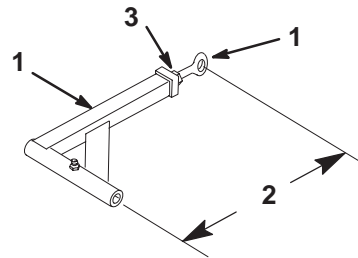

Figure 59
- To adjust push arms, loosen jam nut and rotate ball joint counterclockwise, one turn at a time. (Fig. 59).
- Adjust each side the same amount. Each push arm should have a nominal length of 15-5/16 in. (389mm) (Fig. 59).